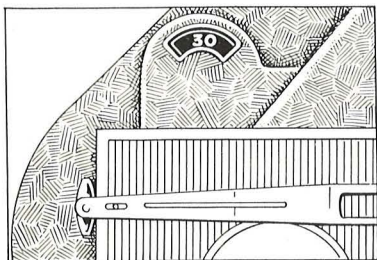

Fig. 9.
The camera is fitted with a film counter (2) (fig. 9) which gives the length of film unexposed. The dial is graduated up to 30 metres (100 ft), maximum capacity of the camera.